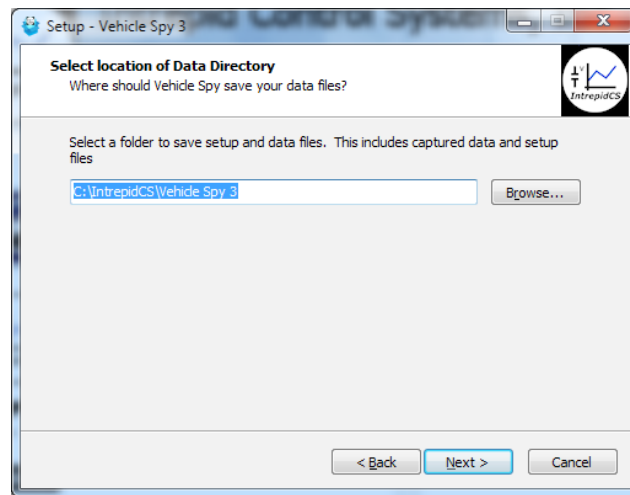

Figure 23: Selecting the Data Directory Location.
8. **Select Data Directory Location:** Next, choose where you want Vehicle Spy 3 to store its data files. We recommend sticking with the provided default, *C:\IntrepidCS\Vehicle Spy 3* (Figure 23). Click **Next >** to continue.